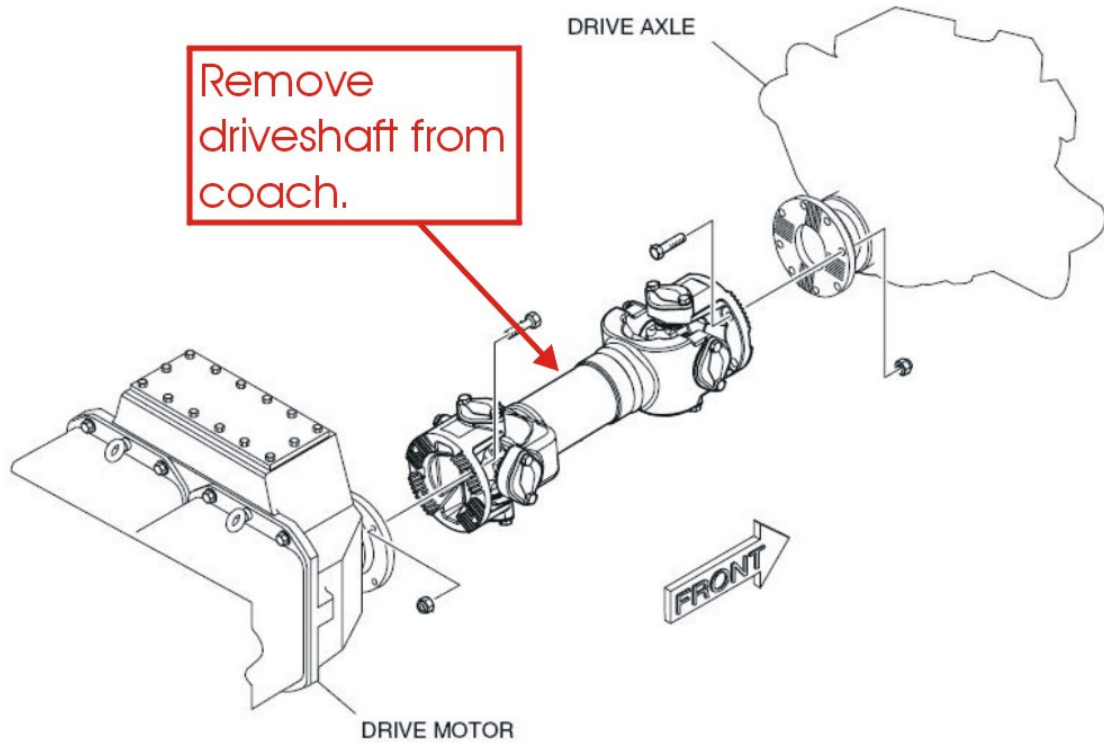

Figure 1: Driveshaft installation.
3. Remove driveshaft from the bus. Retain bolts for reuse, discard locknuts. See Figure 1.